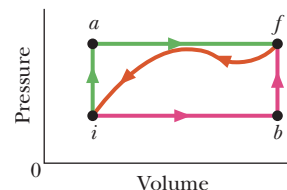

Figure 18-40 Problem 47.
••47 SSM WWW When a system is taken from state  $i$  to state  $f$  along path  $iaf$  in Fig. 18-40,  $Q = 50$  cal and  $W = 20$  cal. Along path  $ibf$ ,  $Q = 36$  cal. (a) What is  $W$  along path  $ibf$ ? (b) If  $W = -13$  cal for the return path  $fi$ , what is  $Q$  for this path? (c) If  $E_{\text{int},i} = 10$  cal, what is  $E_{\text{int},f}$ ? If  $E_{\text{int},b} = 22$  cal, what is  $Q$  for (d) path  $ib$  and (e) path  $bf$ ?